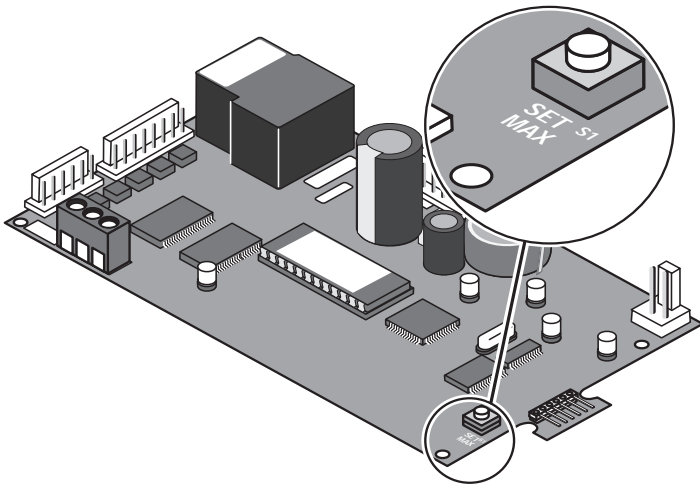

FIGURE 24: Max Temperature Set Point Controls
2. Access the control panel board on the underside of the top cover. Locate the red button on the corner of the control board (see Figure 24).
3. Push the Max. Temp. Set Point button on the back of the control board (see Figure 24).